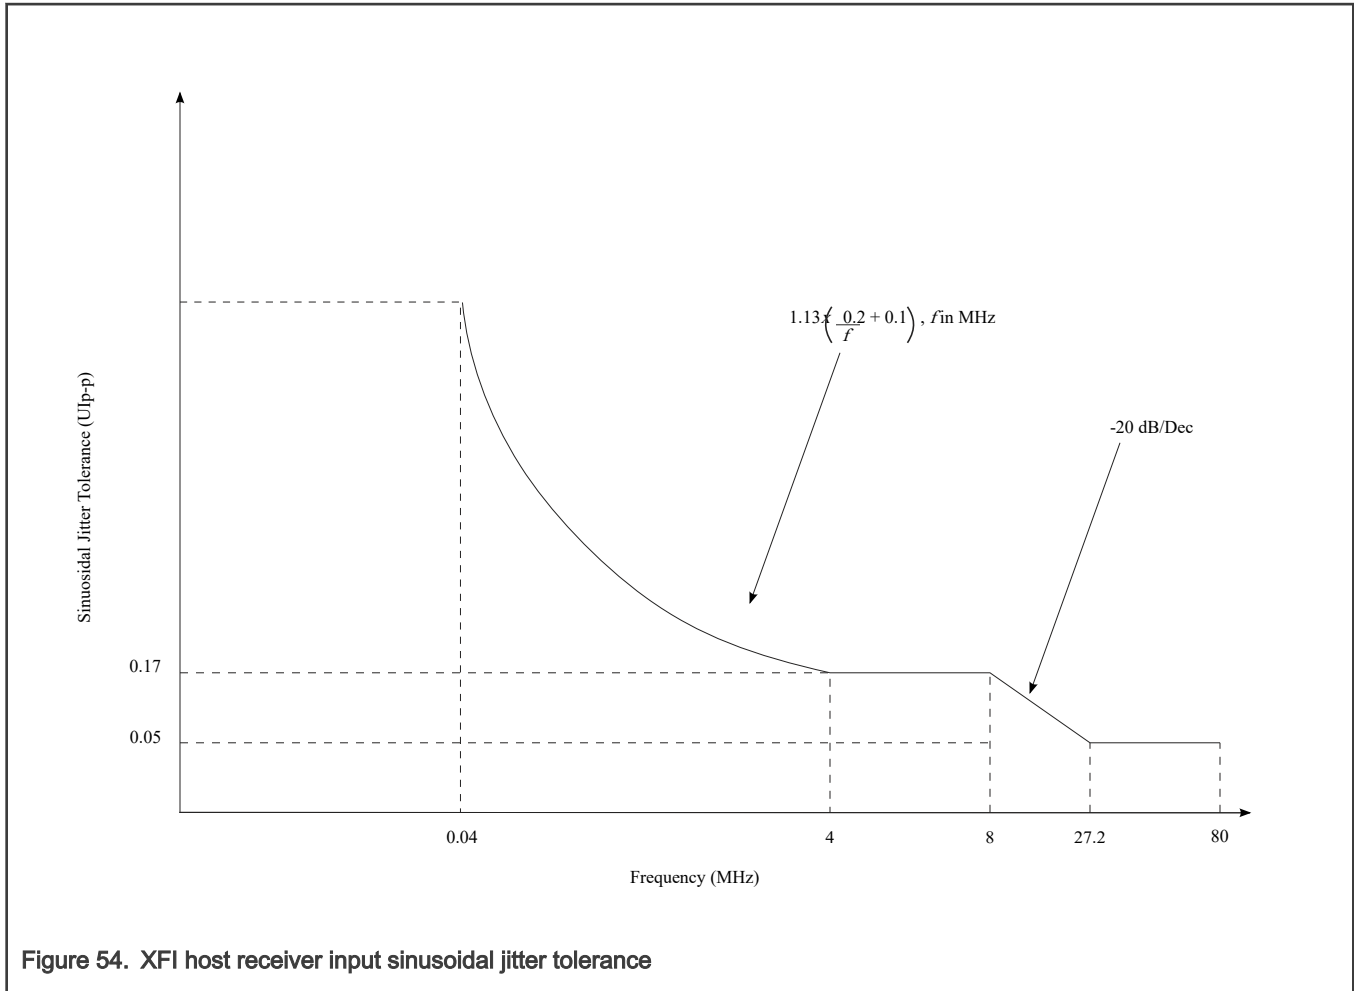

Figure 54. XFI host receiver input sinusoidal jitter tolerance
1. The total jitter (TJ) consists of Random Jitter (RJ), Duty Cycle Distortion (DCD), Periodic Jitter (PJ), and Inter-Symbol Interference (ISI). Non-EQJ jitter can include duty cycle distortion (DCD), random jitter (RJ), and periodic jitter (PJ). Non-EQJ jitter is uncorrelated to the primary data stream with exception of the DCD and so cannot be equalized by the receiver under test. It can exhibit a wide spectrum. Non - EQJ = TJ - ISI = RJ + DCD + PJ.
3. See Figure 54.